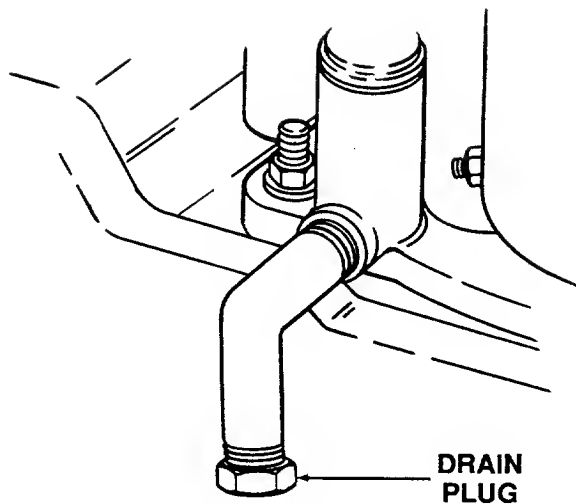

Figure 25
1. Place the tractor on a level surface, and engage brake pedal lock. Remove the drain plug and collect the old oil in an adequate container. (Refer to Figure 25.)